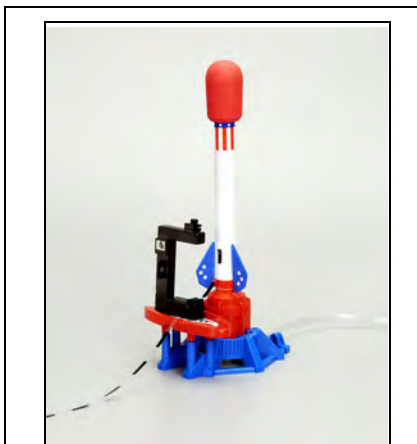

Figure 3a: Threading the Tape through a Photogate on a Air Rocket System
2. Use a piece of double-stick tape to mount a Photogate Head to the side platform on the Air Rocket System. Secure the bracketed arm on the double-stick tape (Figure 3a).